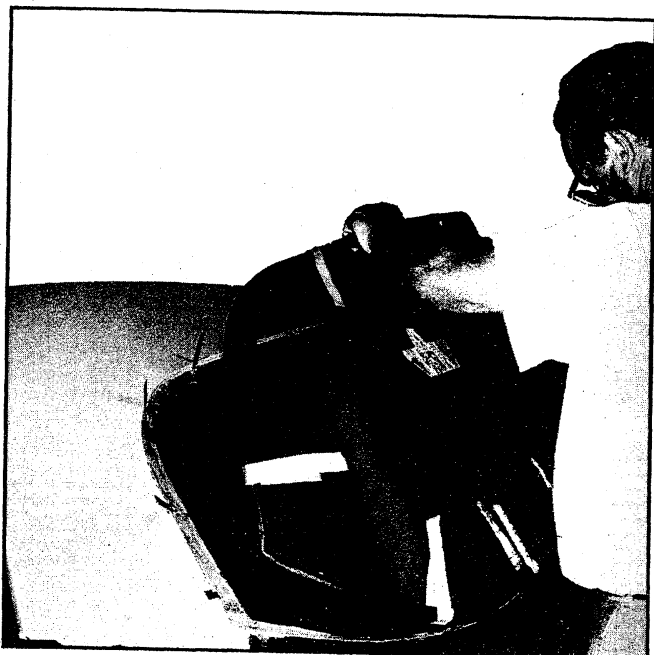

Fig. 89—Installing Window Assembly
5. Starting at bottom center of glass, insert a piece of heavy cord, such as chalk line, in groove of weatherstrip. Cut the cord long enough so that about 10" of free length exists at each end after going around the weatherstrip. Tie the ends of the cord together in over-hand knot and tape loose ends to inside surface glass. Masking tape may be used to hold weatherstrip to glass (fig. 89).
7. Place window assembly in opening as shown in Figure 89.